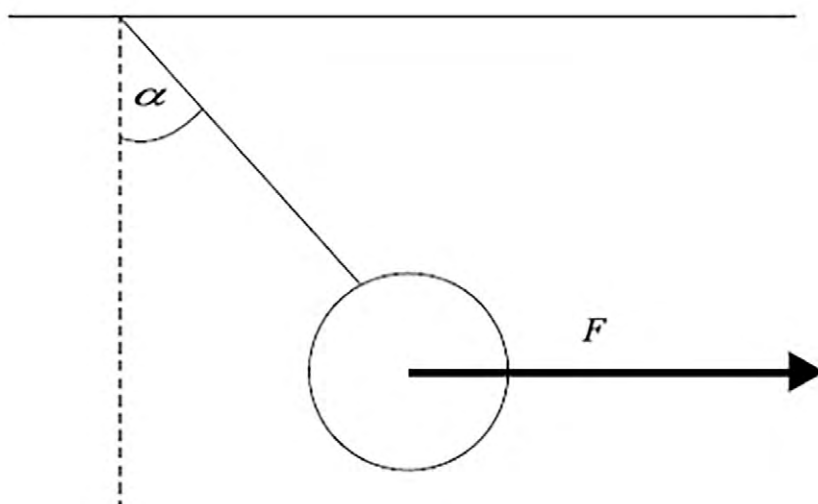

Fig. 1
- (a) A 20kg ball shown in Fig. 1 is suspended in equilibrium from the ceiling on a wire and has a force $F = 80 \text{ N}$ acting on it in horizontal direction. The wire makes an angle of α with the vertical.